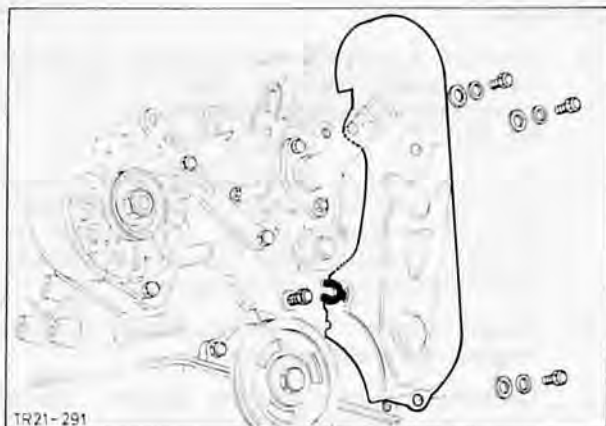

Fig. 201. Fit toothed belt guard
9. Fit water connections and toothed belt guard, Fig. 201.